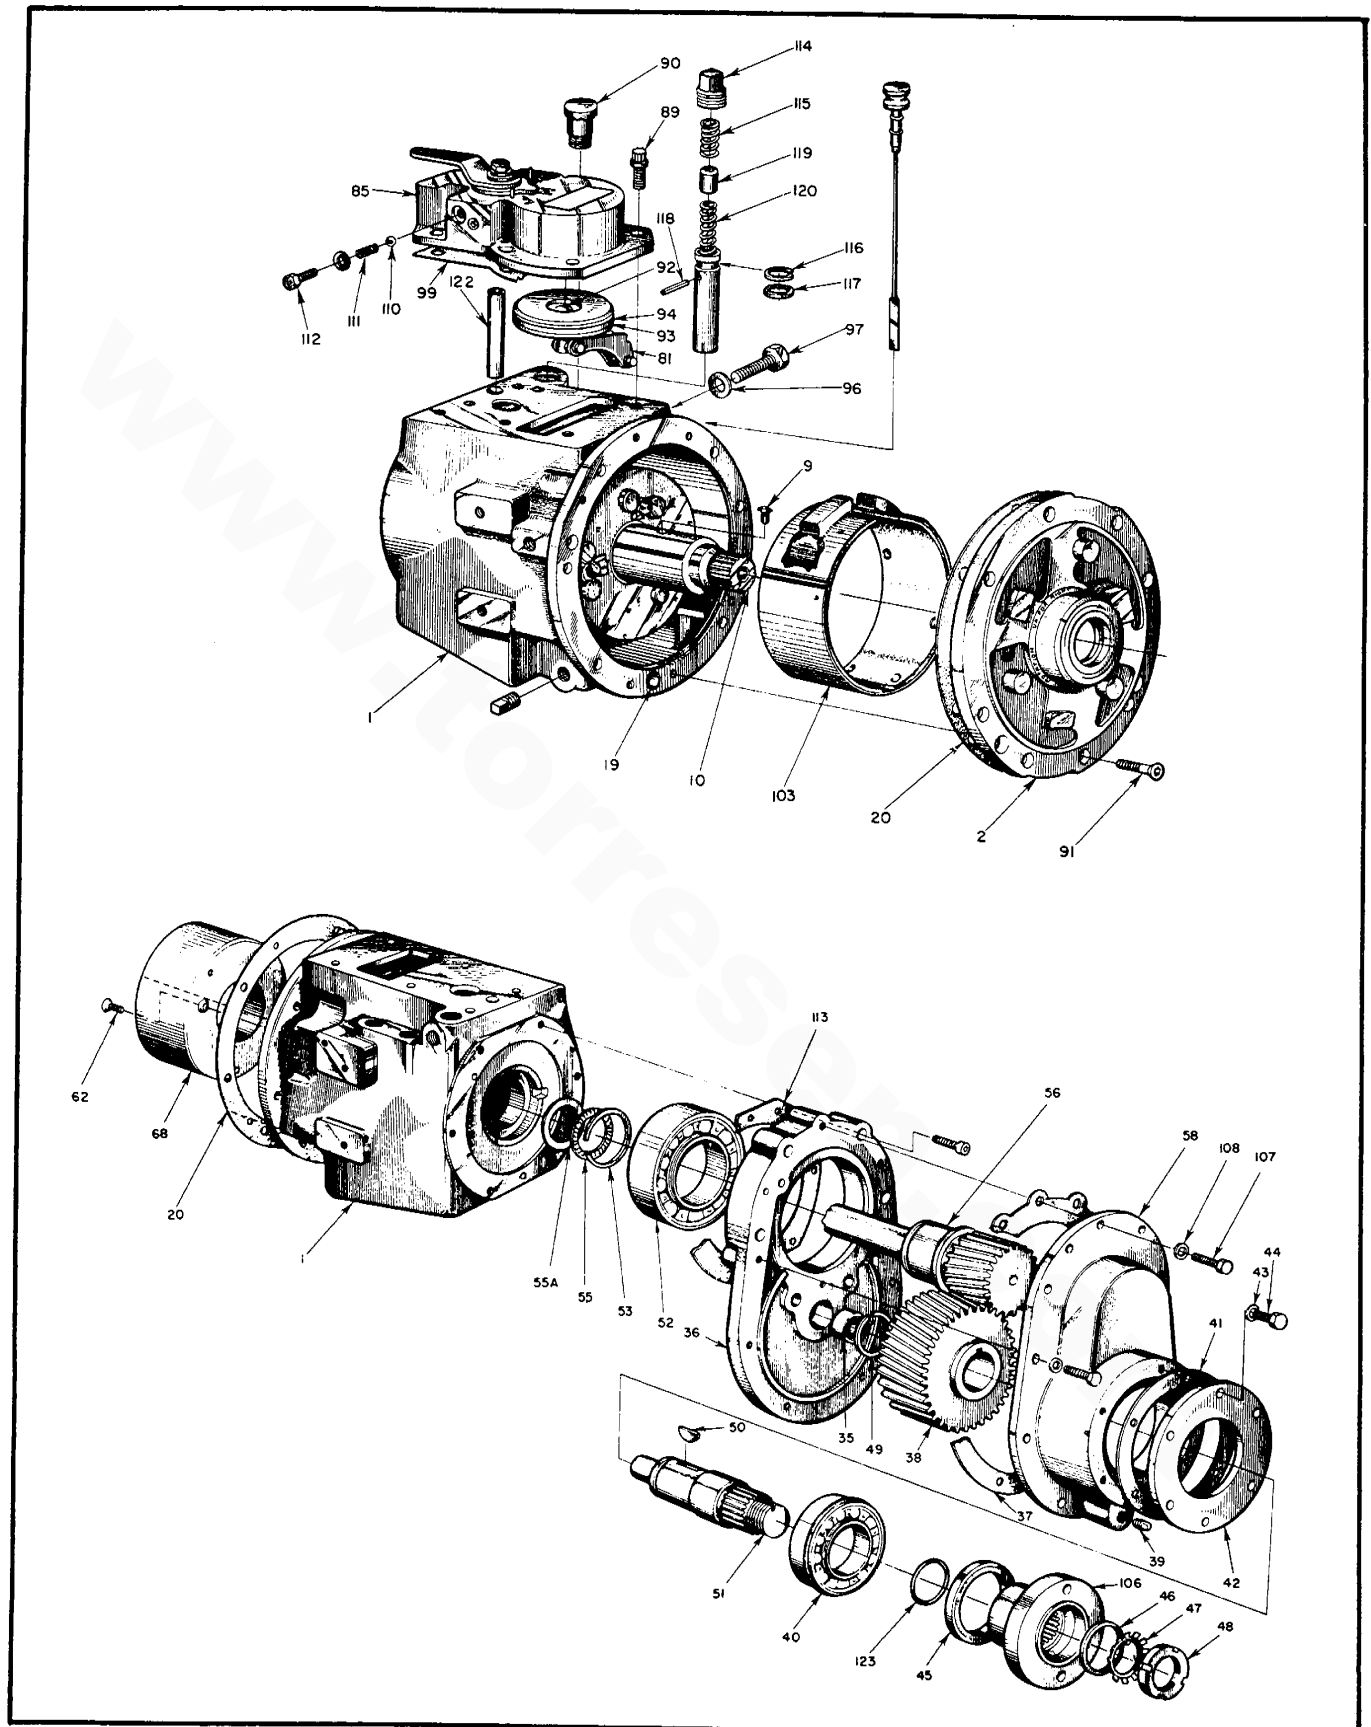
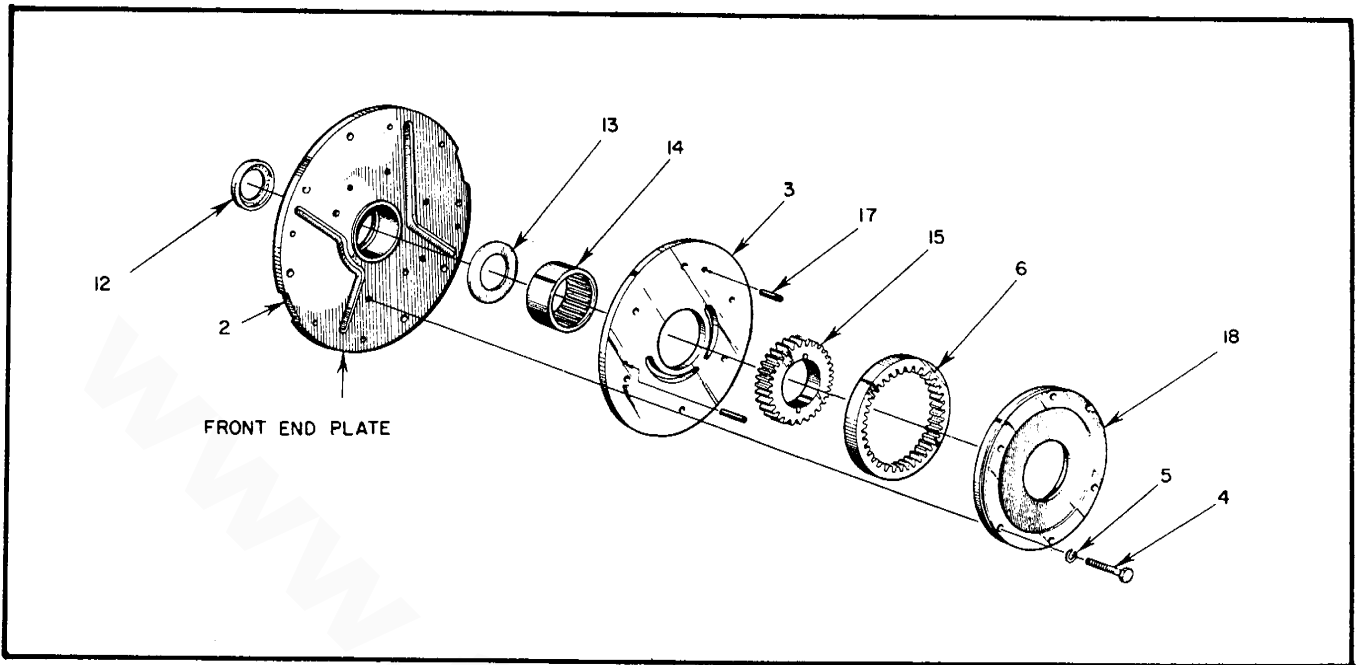

Fig. 151-Complete Assembly
Fig. 153—Front End Plate and Pump
FIGURE 151 and 153.
NOTE: To assure proper assembly, make notation of direction of cast arrow on front end plate before removing front end plate (Fig. 151).
2. Place assembly tool T-4689 over splined end of engine gear (10) to protect oil seal during removal of front end plate.
3. Lift front end plate assembly, figure 151, from housing assembly taking care not to damage front oil seal in front end plate.
4. Remove pump drive key (9) from engine gear (10).
5. Remove six capscrews (4) and six lockwashers (5) from pump housing (18), figure 153.
6. Remove pump port plate (3) from front end plate. Care must be taken not to damage pump housing pins (17).
7. Remove pump port plate (3) from pump housing and remove inner pump gear (15) and outer pump gear (6) from cavity in pump housing.
8. It is not necessary to remove two pump pins (17) from pump housing (18) for further servicing. However, if pump housing pins have become damaged and require replacing, they may be removed by gripping with a plier and twisting.
9. Unless damaged and they require replacing, do not attempt removal of roller bearing (14) and front end plate thrust washer (13) from front end plate.
10. Unless damaged and it requires replacing, do not attempt removal of oil seal (12) from front end plate. If necessary to remove oil seal for replacement, take care not to damage roller bearing (14) and front end plate thrust washer (13).